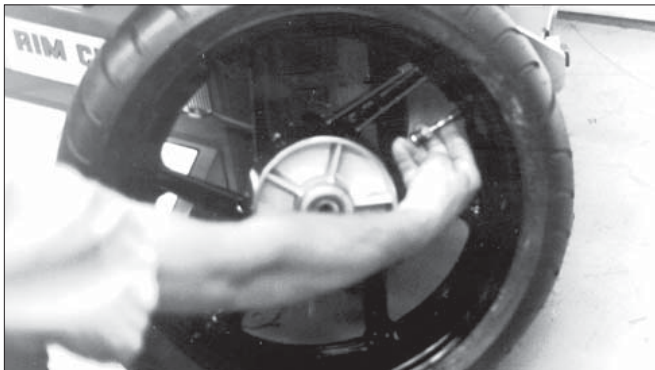

Figure 1 - Remove Valve Core to Deflate Tire
1. Deflate tire completely by removing the valve core from the valve stem (Figure 1).